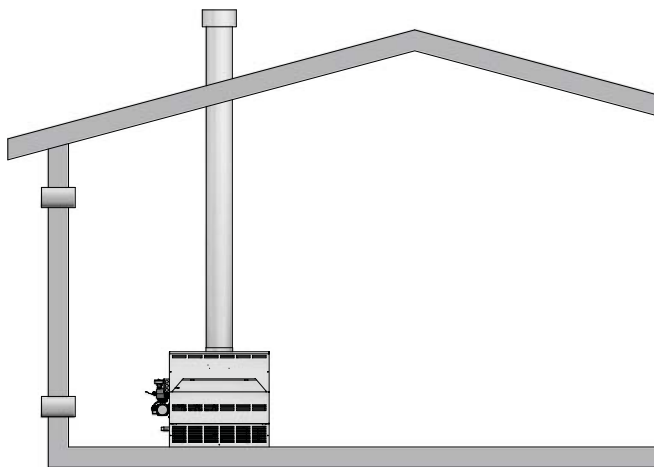

Figure 1-3 *Combustion Air Direct from Outside*
1. If air is taken directly from outside the building with no duct, provide two permanent openings (see FIG. 1-3):